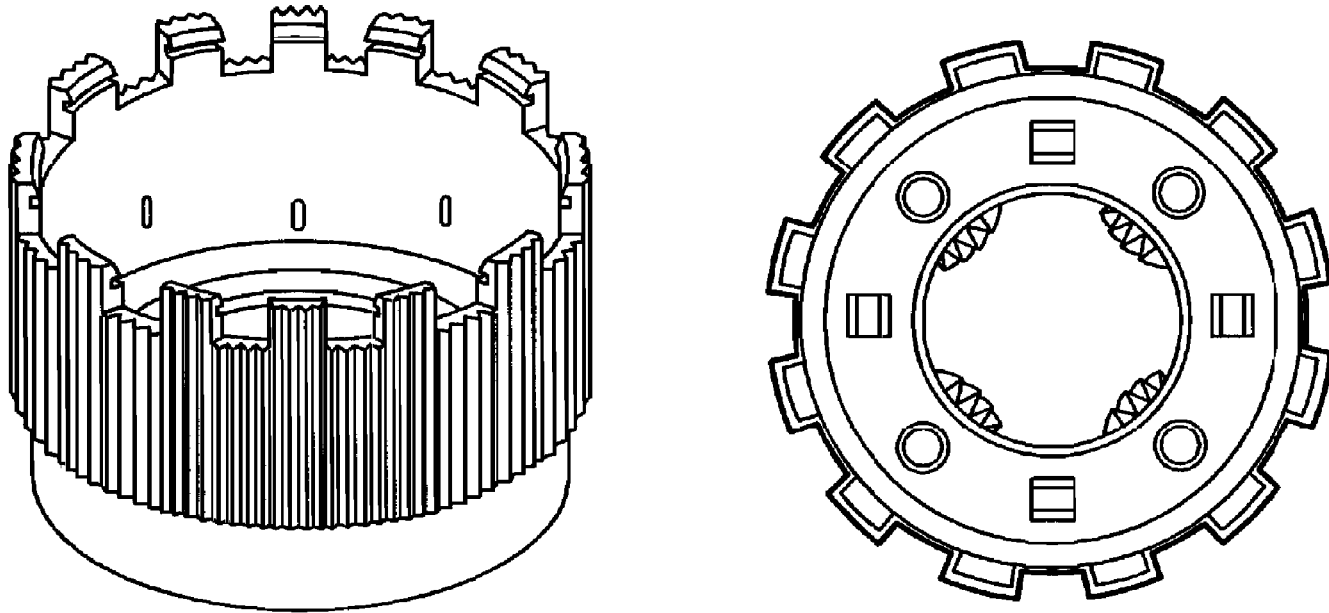

Figure 3
- (5) REAR PLANETARY CARRIER - New design level has narrow teeth on the outside diameter instead of the previous wide teeth, to accommodate the new design reverse clutch hub. Refer to Figures 3 and 4.